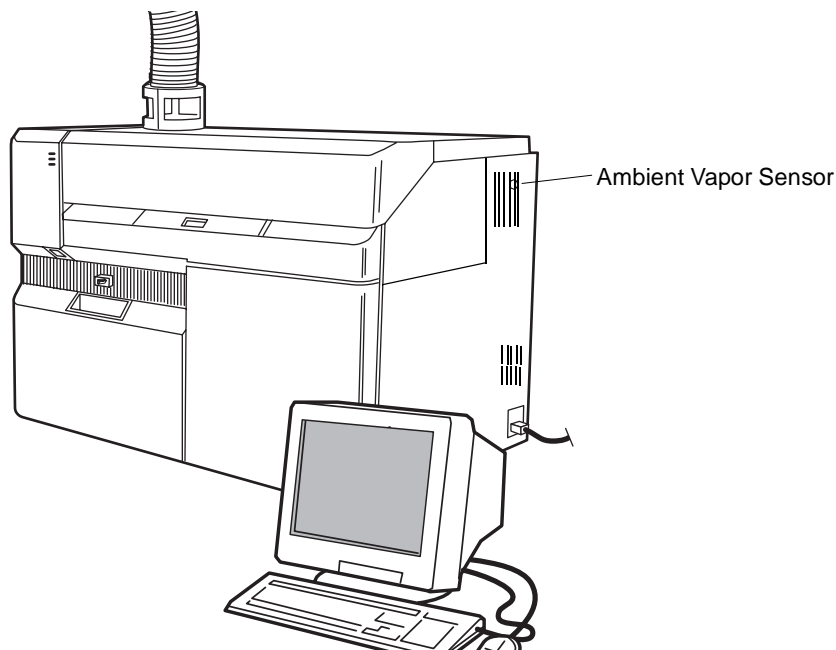

Figure 4-8 Ambient Vapor Sensor Location
9. Remove the vial from the carousel compartment and hold next to ambient vapor sensor tube (Figure 4-8).